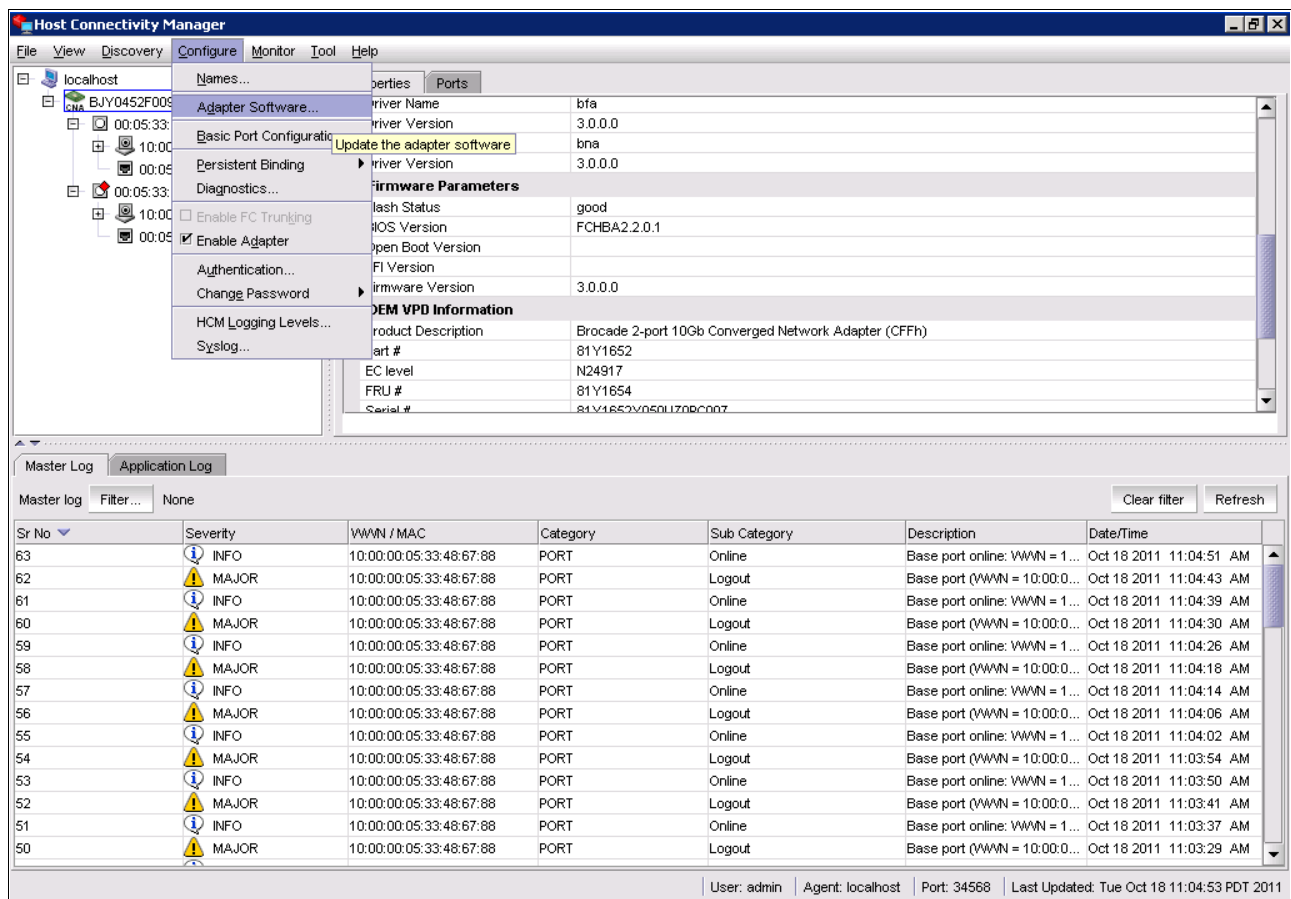

Figure 7-101 Host Connectivity Manager window
2. In the Host Connectivity Manager window (Figure 7-101), select **Configure** → **Adapter Software**.